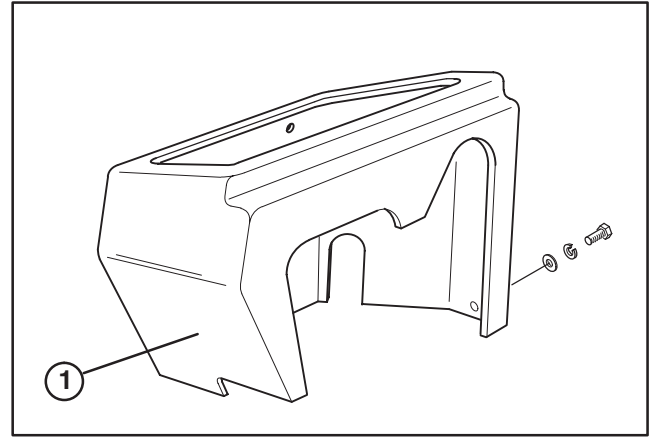

Figure 13
3. Reinstall control panel cover on machine. Secure front of cover to frame with a capscrew, lockwasher and flatwasher (Fig. 13).